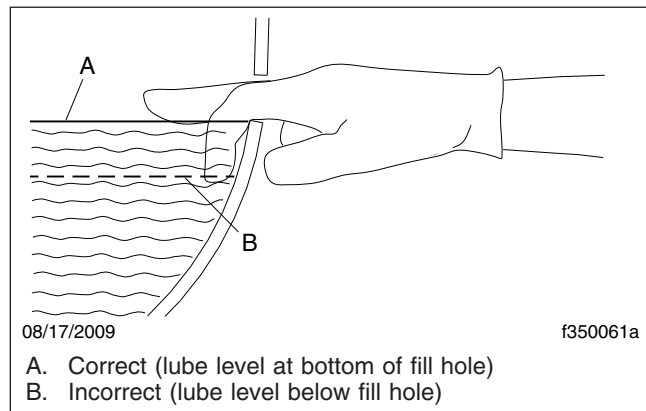

Fig. 2, Axle Lubricant Level Inspection
- 5.1 Fill the axle through the oil fill hole. Lubricant should be level with the bottom of the oil fill hole. To check fluid level, see **Fig. 2**.
- 6.1 With the vehicle on a level surface, fill the axle through the oil fill hole. Lubricant should be level with the bottom of the oil fill hole. To check fluid level, see **Fig. 2**.